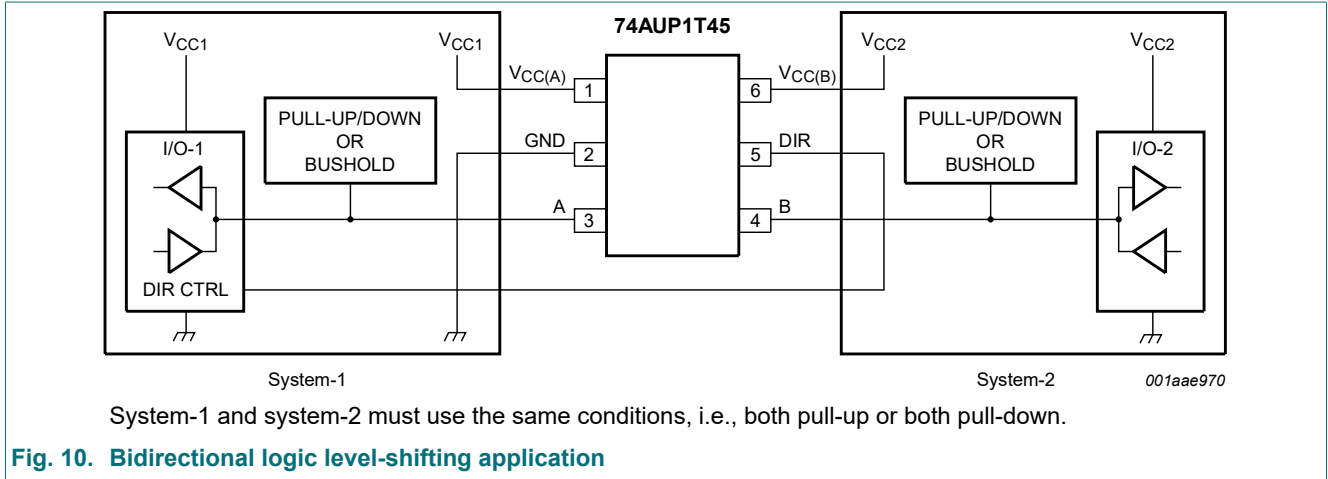

Fig. 10. Bidirectional logic level-shifting application
Fig. 10 shows the 74AUP1T45 being used in a bidirectional logic level-shifting application. Since the device does not have an output enable (OE) pin, the system designer should take precautions to avoid bus contention between system-1 and system-2 when changing directions.